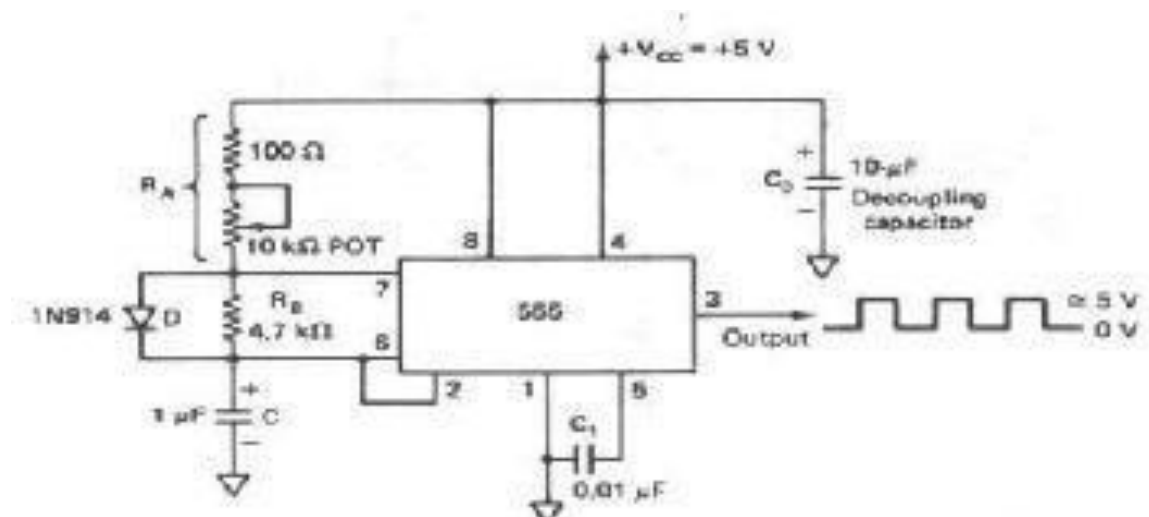

Fig 2.10: Astable Multivibrator as a Square wave generator **Free-running ramp**
Figure 2.10 shows the phase-locked loop (PLL) in its basic form. As illustrated in this figure, the phase-locked loop consists of (1) a phase detector, (2) a low-pass filter, and, (3) a voltage controlled oscillator